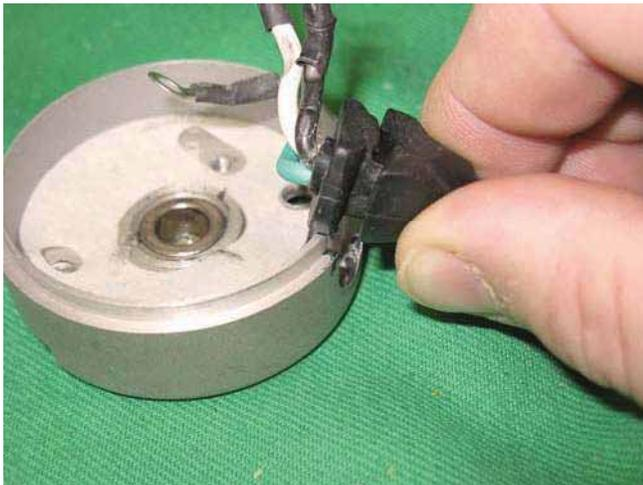

Figure 6.20
15. Press the harness's grommet into the end cap. See Figure 6.20.